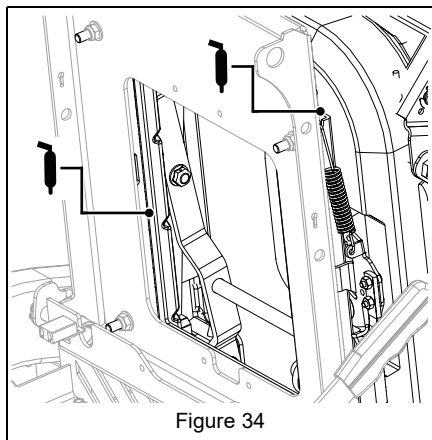

Figure 34
6. Apply grease to seat tracks through slots under seat plate. See Figure 34.